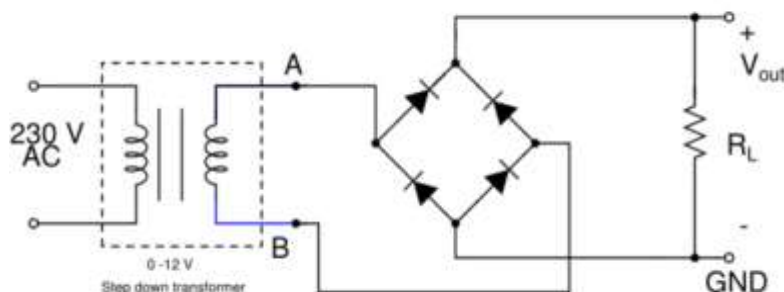
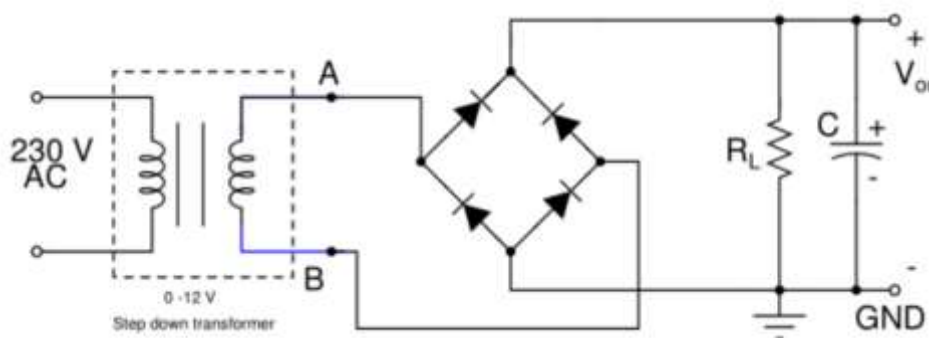

Fig 2.1 Bridge rectifier circuit
Fig 2.3 Bridge rectifier circuit with a capacitor filter
- i) Electrolytic capacitors used in circuits of Fig.1.3 and Fig. 2.3 have polarity, i.e. the capacitors have '+' and '-' terminals. If the electrolytic capacitor is connected with the wrong polarity, it may explode and may cause fire/injury.
The bridge rectifier circuit of Fig.2.1 is modified and re-drawn in Fig.2.3. In the modified circuit, a large value capacitor ($100\text{ }\mu\text{F}$ or $1000\text{ }\mu\text{F}$) is connected across R_L .
- i) Switch-OFF power to the transformer. Modify the circuit of Fig. 2.1 so as to connect the 100 μF electrolytic capacitor C across R_L . **Take extreme care to see that ‘-’ terminal of the electrolytic capacitor is connected to the GND and the ‘+’ terminal to V_{out} .**
Note: V_{in} (of LM7805) = V_{out} of the Bridge rectifier circuit of Fig. 2.3 with R_L removed and $C = 1000\ \mu\text{F}$;
2. We shall use the output of the bridge rectifier (circuit shown in Fig.2.3, but with R_L removed and $C = 1000\ \mu\text{F}$) as V_{in} to the LM 7805 regulator IC.